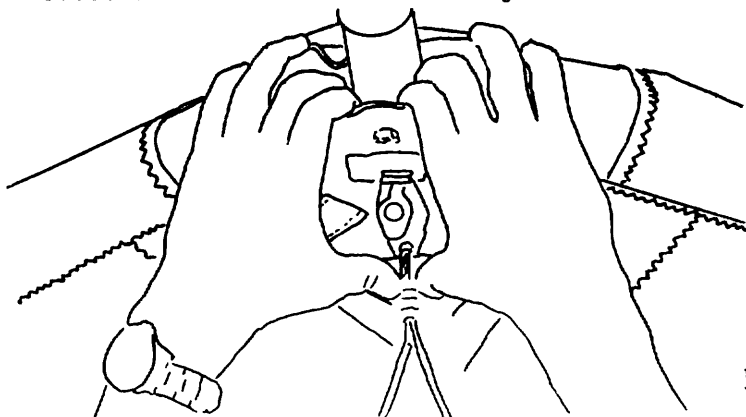

Fig 56
- 2) Work your way along the keel back to the nose, and remove the rubber safety from the bottom nosebolt. Dismount the bottom nose wires by placing your thumbs against the tang handle and pressing upwards while pulling down firmly on top of the noseplate. (Fig 56).